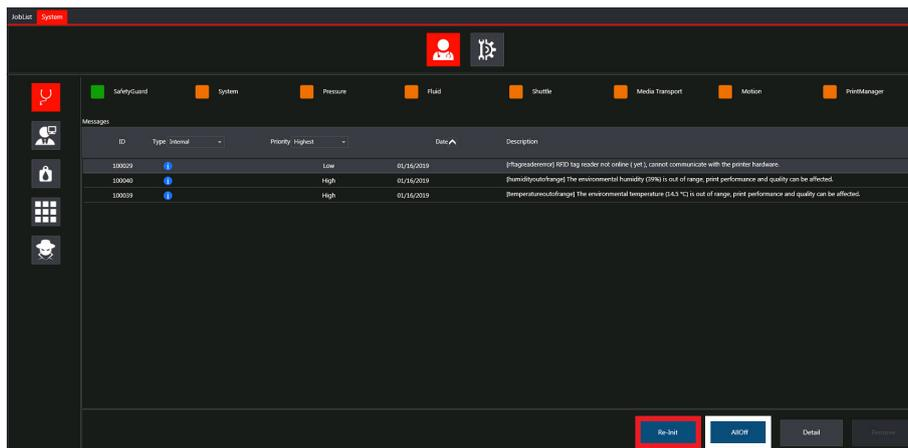

Fig.5-46: Initialization Sequence
- Step 1: Initialize the Jeti Tauro H3300LED with the Re-init button in the bottom right of the Engine Message Overview window *(outlined in red in Fig.5-46)*.
- Step 2 After the initialization sequence, all modules should be ready. However, if a module fails to initialize, you have the option to use the All-Off button *(outlined in white in Fig.5-46)* and turn all modules Off before attempting a new initialization.